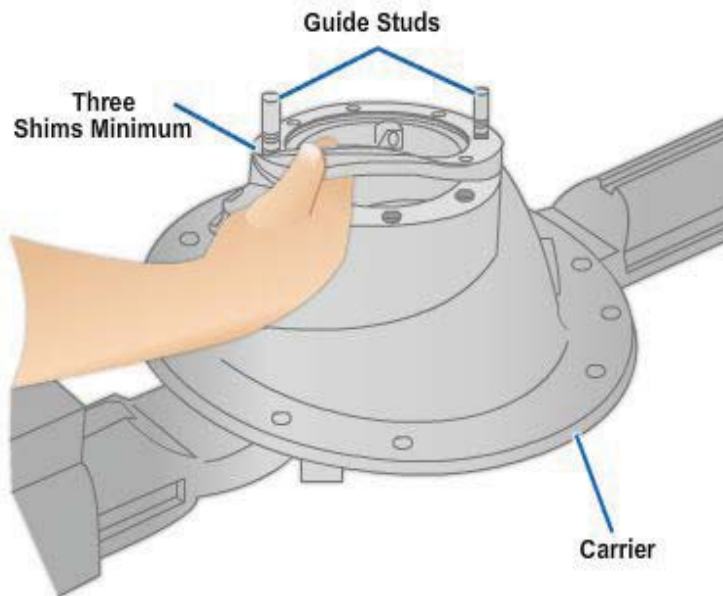

Figure 8-81 - Shim pack installation.
3. Align the oil slots in the shims with the oil slots in the bearing cage and carrier. The use of guide studs will help align the shims (*Figure 8-81*).